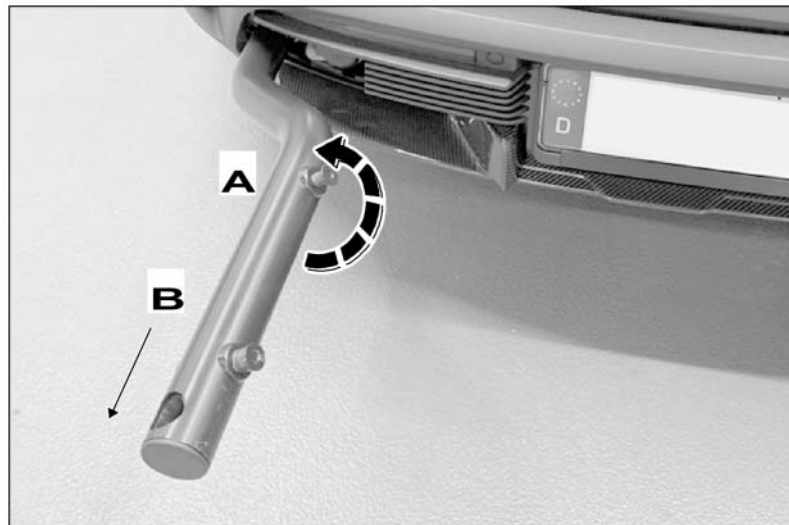

Figure 33
33. – Remove fastening tubes. Turn the fastening tube outwards as far as it will go ⇒ *Figure 33 -LHD vehicle -*. The fastening tube can be pulled out to the rear ⇒ *Figure 33 -RHD vehicle -*. Repeat these steps on the other side. **Important:** If the fastening tubes cannot be removed, spray the contact gap between the rear bike carrier preparation on the vehicle and the fastening tube generously with contact spray, for example, and turn the fastening tubes back and forth in the groove (approx.  $\pm 3^\circ$ ).